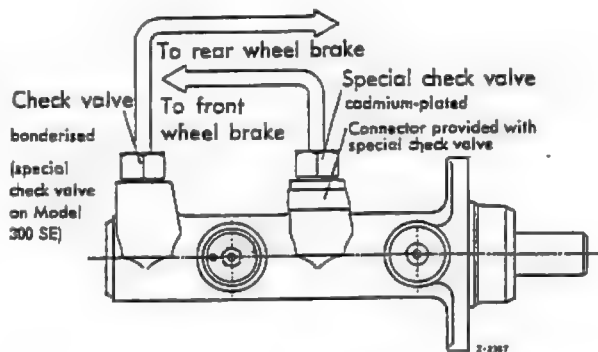

Fig. 42-3a/26
17. First insert the support ring (8) in the housing (Fig. 42-3a/17). Then lightly rub the vacuum seals (6) with silicone grease and install one vacuum seal. Press the seal home with a blunt instrument. Now install the spacer ring (7) in such a way that the radial bore points toward the leak port (B). Then insert the second vacuum seal and the piston stop washer (4) together with the piston stop ring (5), at the same time pressing the piston lightly into the housing by means of a drift (Fig. 42-3a/25).